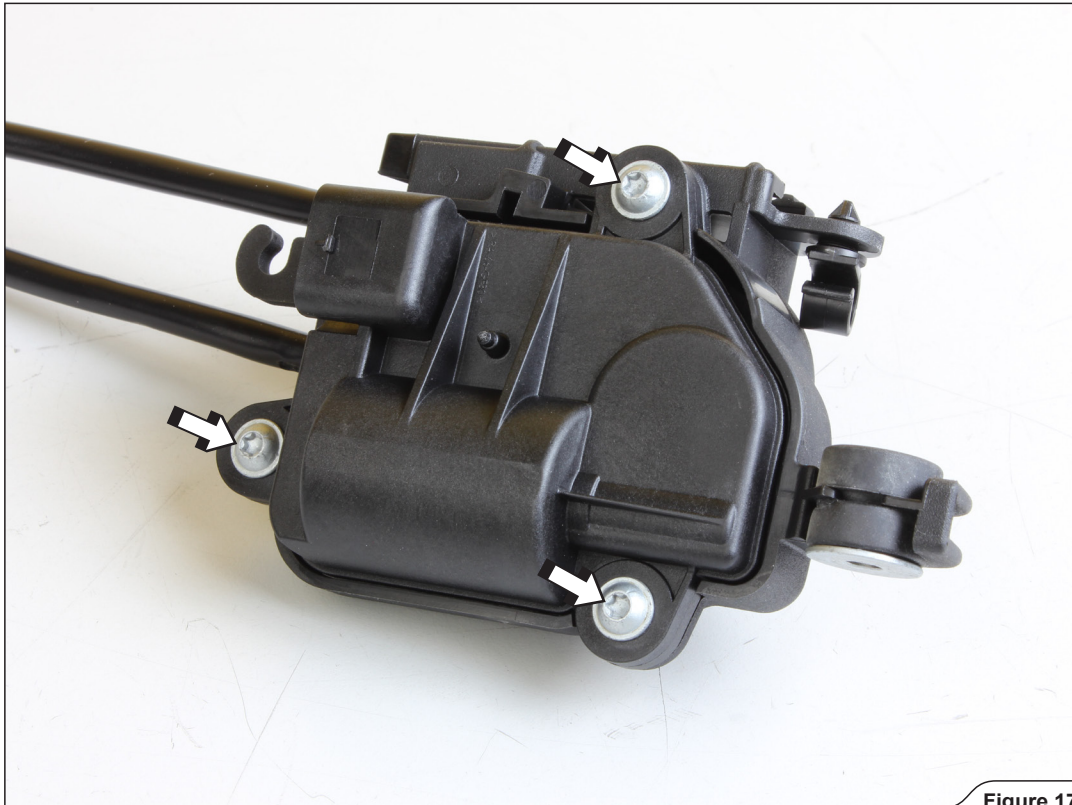

Figure 17
14. Unscrew the servo motor's cover, remove the cables and reinstall the cover (Figure 17, 18, 19).